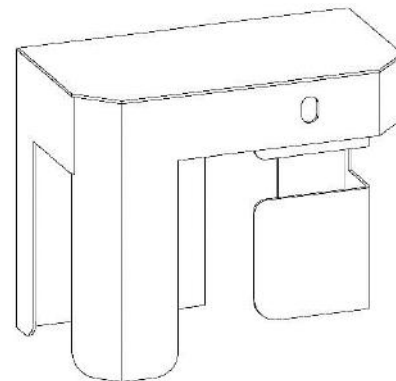

FIG. 9.8
9.5.1.1.2. If the gate opens to the right as you exit the VPL Platform, use a RIGHT latch cover (FIG. 9.8).